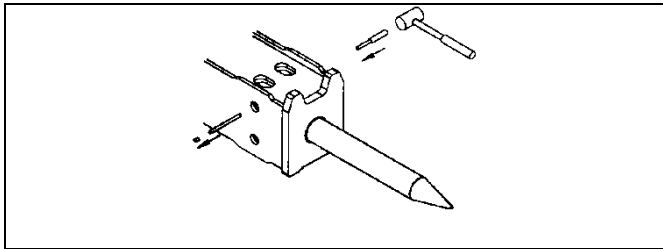

Fig. 10-3 Remove snap ring, rubber plugs and covers, push out smaller pins
5. Push the small retainers to the side until they clear the larger retainers. [Fig. 10-3].